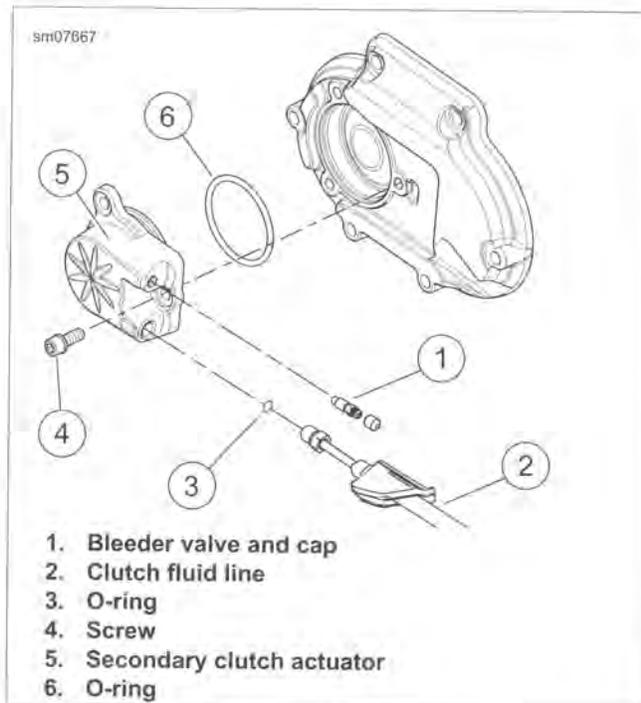

Figure 6-8. Secondary Clutch Actuator
2. See Figure 6-8. Loosen clutch fluid line (2) and allow clutch fluid to drain.